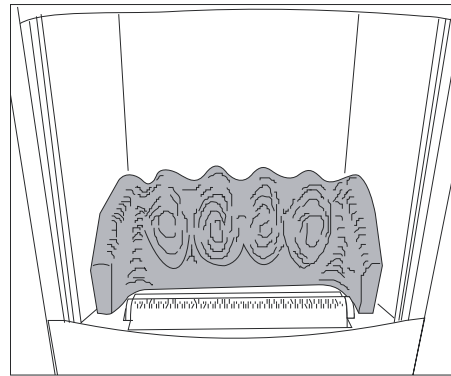

Figure 19
1. Position the rear matrix behind the burner as shown in **Figure 19**.